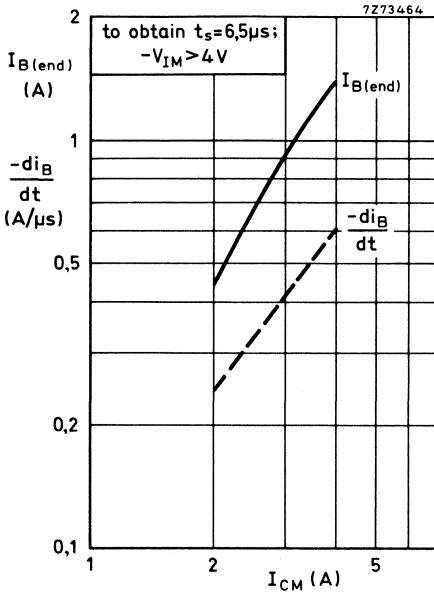

Fig. 3
To obtain a short fall time with a high-voltage transistor, the storage time has to be sufficiently long and, during turn-off, the negative base-emitter voltage must be sufficiently high. Both requirements can be simply realized by including a coil in series with the base of the output transistor. However, to reduce base current variations, a base resistor is added to most designs, with the disadvantage of reduced - and perhaps even insufficient - energy in the base inductance during turn-off. This can be improved by shunting the base resistor by a diode and/or a capacitor. Instead of giving various detailed base circuits based on these considerations, it is a more direct approach to specify the recommended $-di_B/dt$, see Fig. 3.
- Fig. 3. "End" value of the base current and its rate of fall during turn-off as a function of the peak collector current to obtain, for a typical transistor, a recommended storage time of $6,5 \mu\text{s}$. (During the storage time and the decay time of the collector current the negative turn-off drive voltage ($-V_{IM}$) must be $> 4 \text{ V}$.)